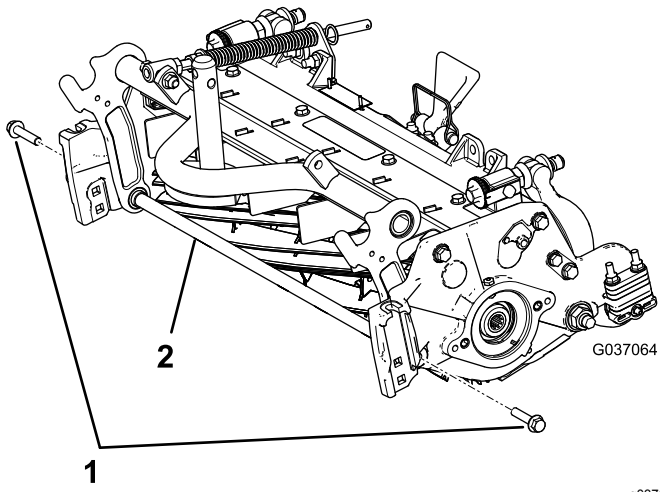

Figure 6
- A. Remove the 2 flange-head bolts securing the support rod, and remove the support rod (Figure 6).